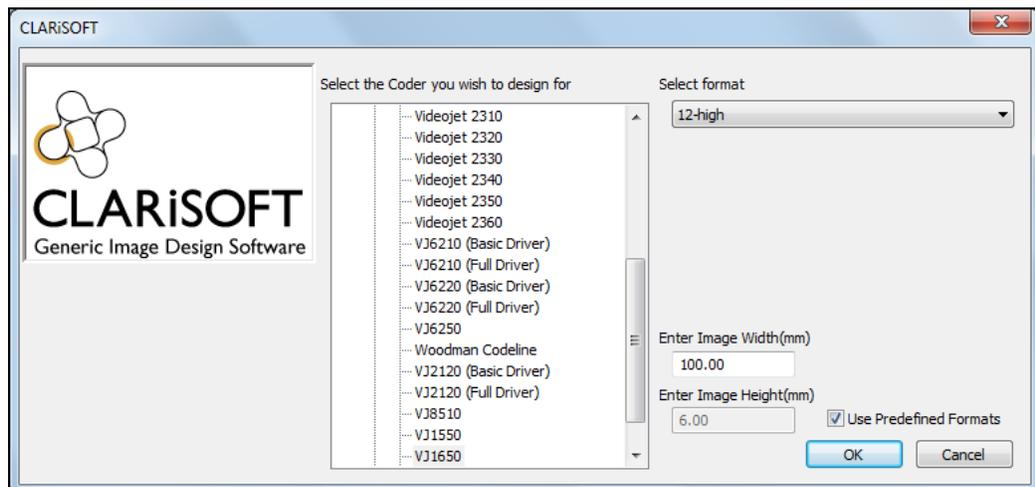

Figure 6-1: Select the Coder
- 1 Click *File* > *New* to create a new image. Select the coder and image / size options as shown in Figure 6-1.